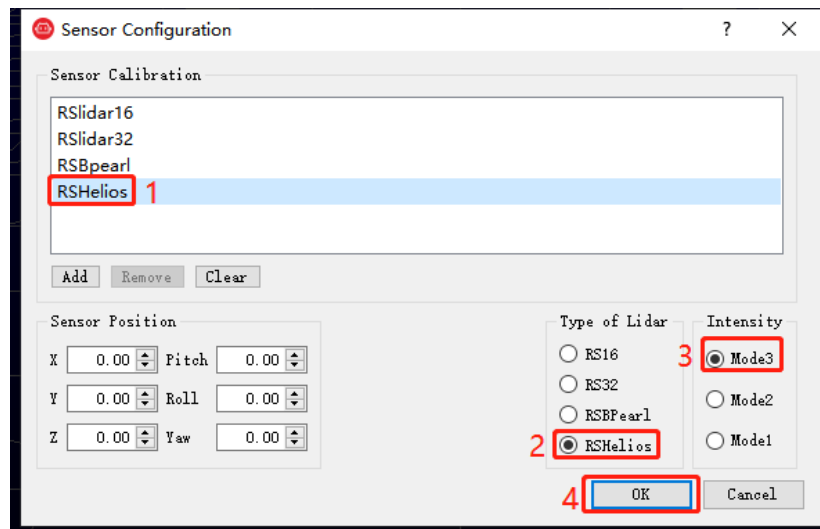

Figure C-2 Select RSHelios Parameter Configuration File
4. The Sensor Configuration dialog will appear. In “Type of Lidar”, Chose RSHelios. In “Intensity”, chose Mode3. Then click **OK**, as shown in Figure C-2: